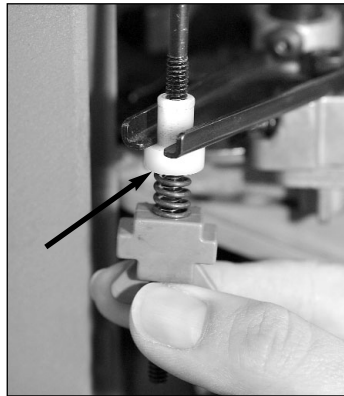

FIG 103
4. Slide the failsafe rod into the failsafe return bracket. Push the shoulder washer up into place (arrow FIG 103) and tighten the blue plastic wing nut until the end of the threaded rod is even with the wings of the wing nut.